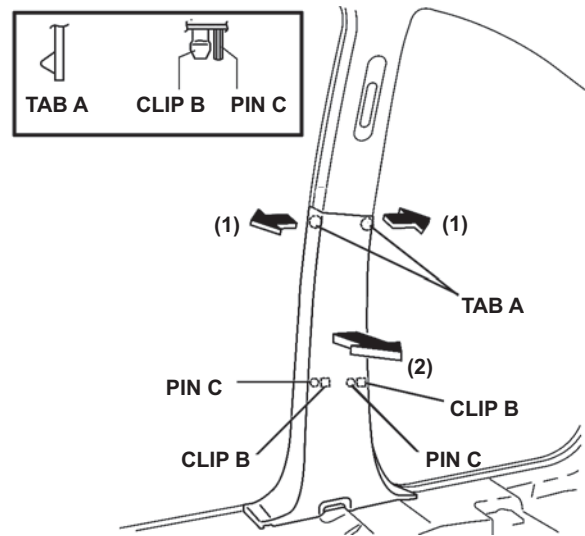

FIGURE 36
- 2.) PULL THE B-PILLAR LOWER TRIM IN THE DIRECTION OF ARROW (1) AND (2). DETACH TABS A, CLIPS B AND PINS C. (SEE FIGURE 36)
- 3.) REMOVE THE B-PILLAR LOWER TRIM. (SEE FIGURE 36)
- 2.) REMOVE THE BOLT THEN REMOVE THE FRONT SEAT BELT FROM B-PILLAR. (SEE FIGURE 36)